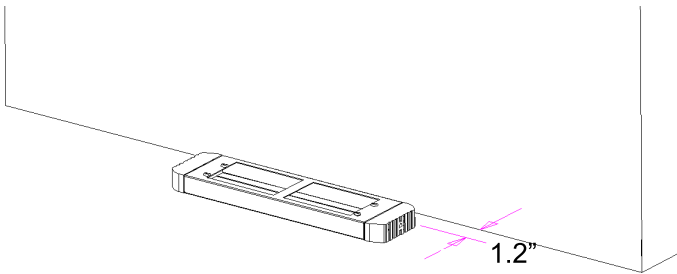

Figure 6: Bottom Base Installation
1. Install the bottom base on the ground about 1.2 inches (30 mm) from the wall, and ensure the base is oriented correctly, as shown in Figure 6 below.